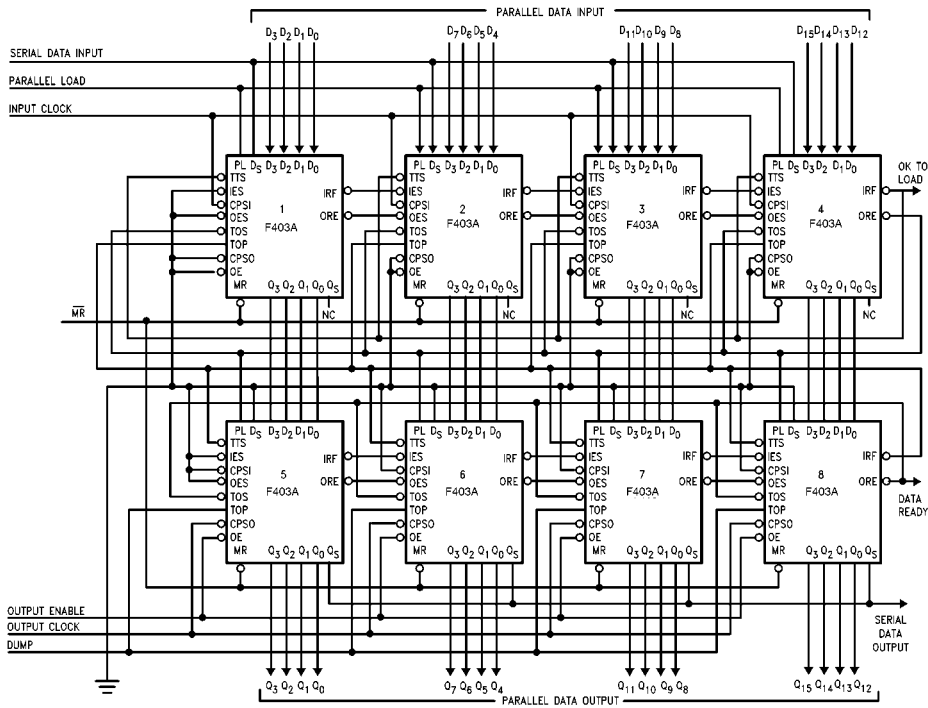
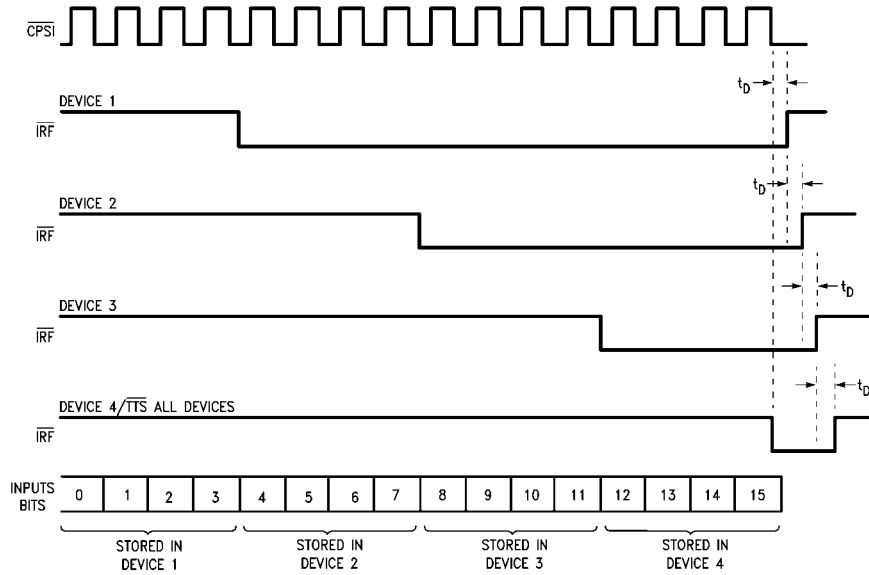
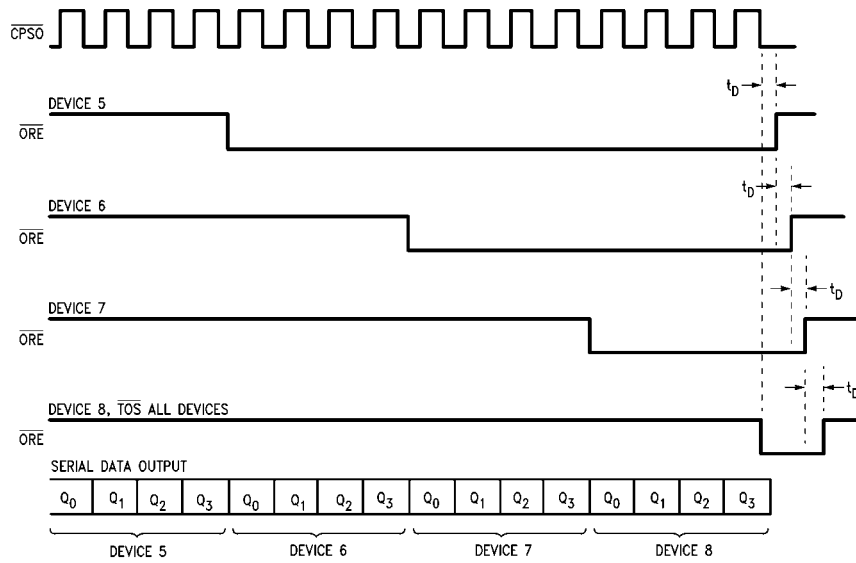
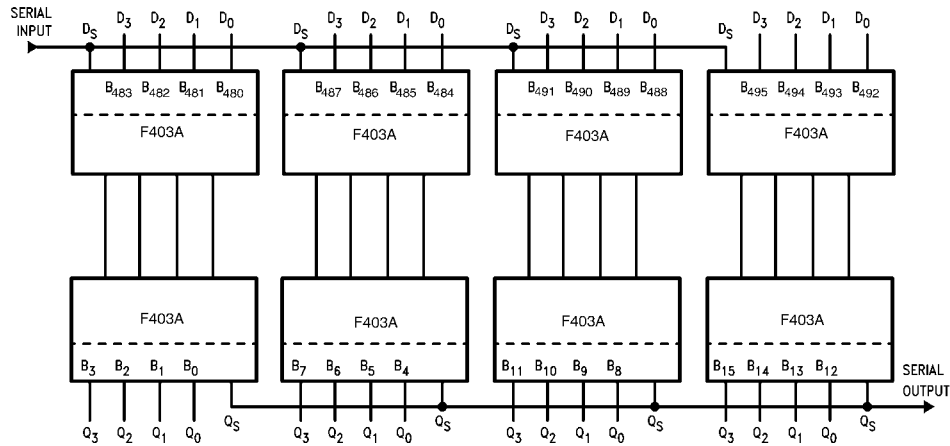

FIGURE 6. A 31 x 16 FIFO Array
FIGURE 7. Serial Data Entry for Array of Figure 6
FIGURE 8. Serial Data Extraction for Array of Figure 6
FIGURE 9. Final Position of a 496-Bit Serial Input
**Horizontal and Vertical Expansion**— The 74F403A can be expanded in both the horizontal and vertical directions without any external parts and without sacrificing any of its FIFO's flexibility for serial/parallel input and output. The interconnections necessary to form a 31-word by 16-bit FIFO are shown in Figure 6. Using the same technique, any FIFO of  $(15m + 1)$ -words by  $(4n)$ -bits can be constructed, where  $m$  is the number of devices in a column and  $n$  is the number of devices in a row. Figure 7 and Figure 8 show the timing diagrams for serial data entry and extraction for the 31-word by 16-bit FIFO shown in Figure 6. The final position of data after serial insertion of 496 bits into the FIFO array of Figure 6 is shown in Figure 9.
In the 74F403A array of Figure 6 devices 1 and 5 are defined as "row masters" and the other devices are slaves to the master in their row. No slave in a given row will initialize its Input Register until it has received LOW on its  $\overline{IES}$  input from a row master or a slave of higher priority.